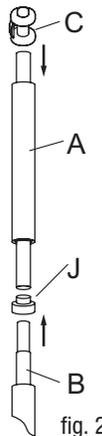

fig. 2
Install an intermediate adapter (J) and the component assembled in STEP 1 into the bottom frame. Repeat the same process for all rods. (Fig. 2)